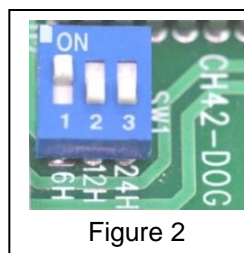

Figure 2
- Equalize charge mode will continue to 6/12/24 hours and back to float charge mode automatically to prevent battery overcharged. Factory default time is 6 hours. (Figure 2)